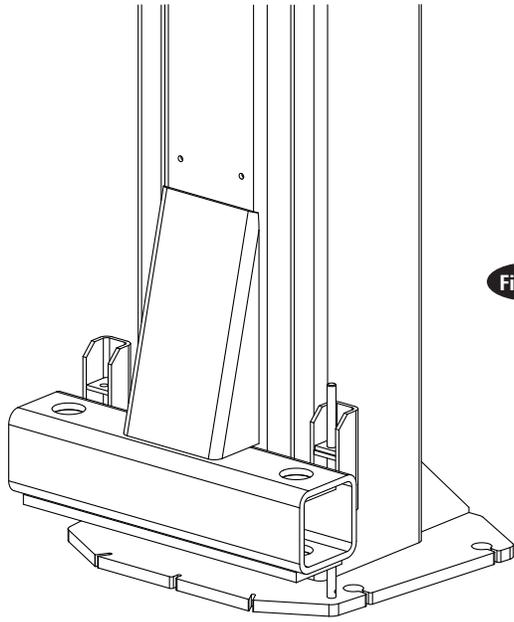

Fig. 26b
- B) Insert actuator pin into bracket as shown in Fig. 26b. Install spring and secure in place with 3 mm spring pin.